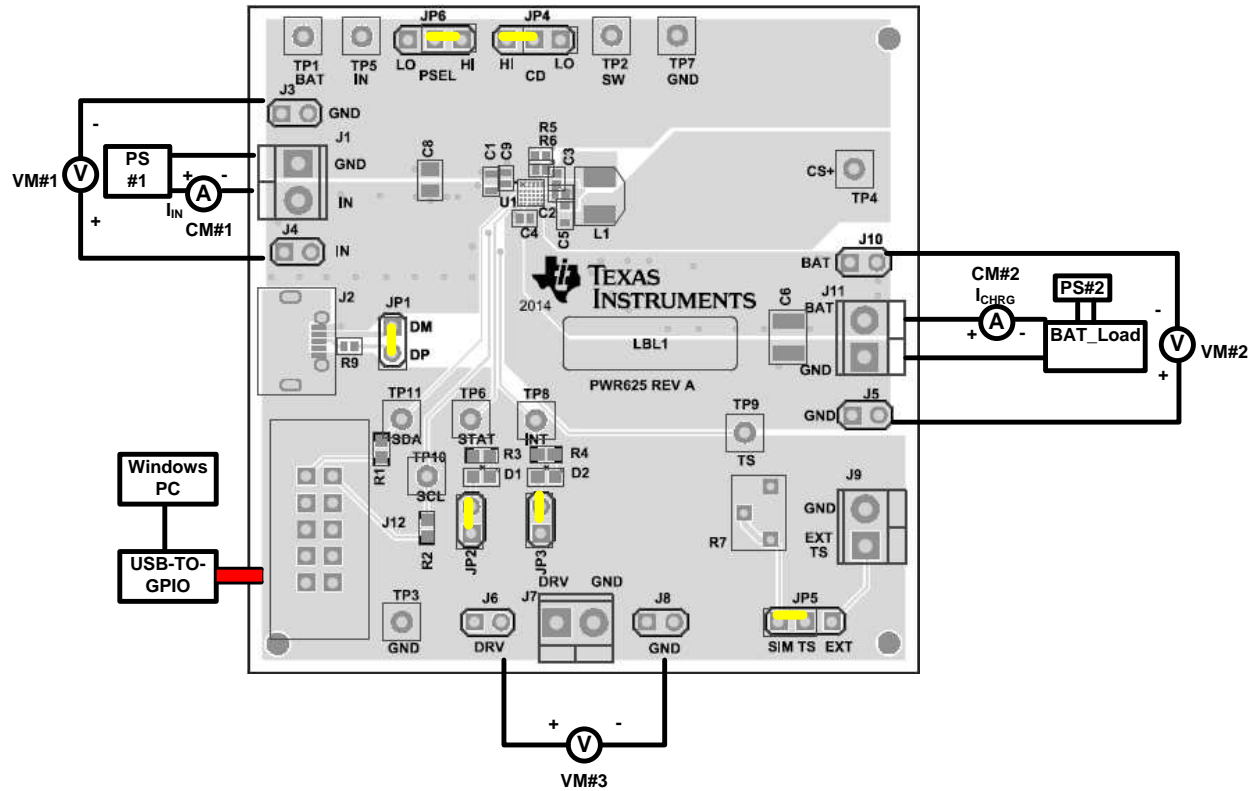

Figure 4. Recommended Initial Test Setup for bq24187EVM-625
- After the preceding steps have been performed, the test setup for bq24187EVM-625 is configured as is shown in Figure 4